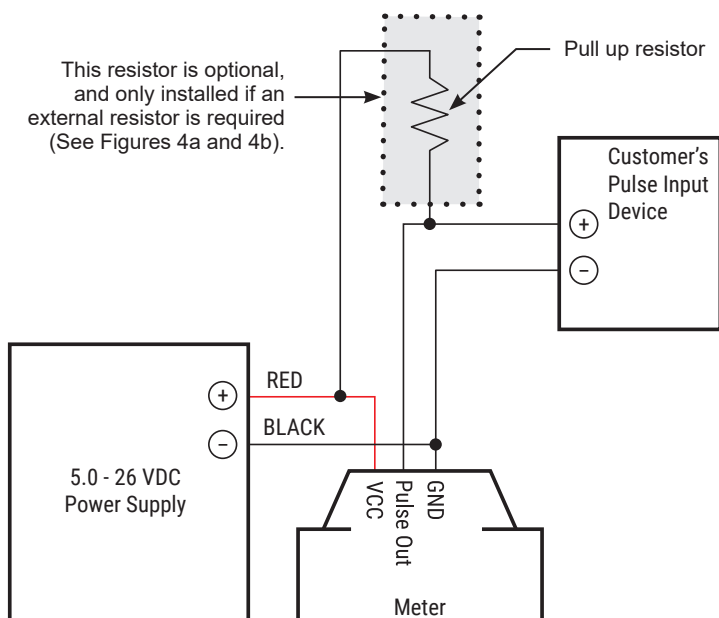

Figure 3
1. The Pulse Access module comes pre-wired for external connections to external power and provides an open collector output which can be set to either raw or scaled pulse output. The wires are color coded to be connected as shown in Figures 3 & 4.
NOTE: The internal and external options for the pull up resistance and voltage is selectable by the header on the pulse access board (see Figures 4a & 4b). When the Jumper is on the top two pins, the 'external resistor required' option is selected (Figure 4a). This external resistor can be installed as shown on Figure 3, but could also be built into the existing customer equipment. When the Jumper is located on the bottom two pins, the 'internal resistor' option is selected (Figure 4b).